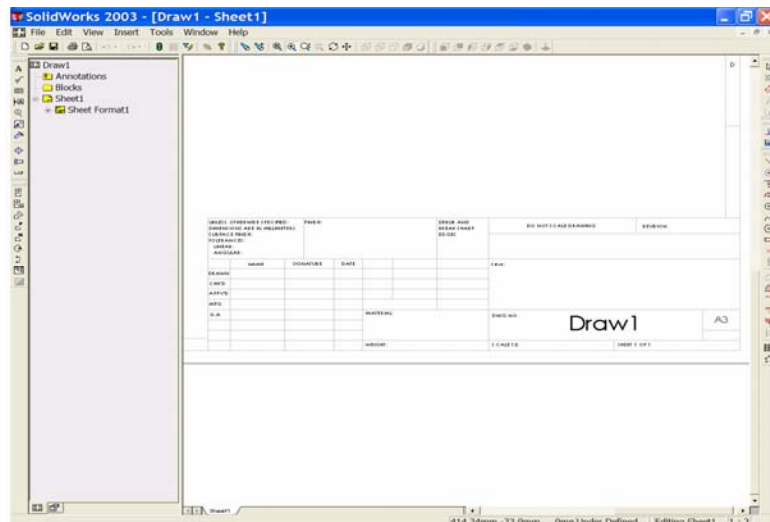

Figure 4
- Use the '**Zoom to Area**'  button from the View Toolbar to examine the border contents. Left click the '**Zoom to Area**' button and draw a window around the '**Title block**' of the border. To do this, place the cursor symbol at the upper left corner of the Title Block, left click and **HOLD THE LEFT BUTTON DOWN**. Drag the cursor symbol to the lower right corner of the Title Block to draw a green window. Release the mouse button and the contents of the window are scaled to fill the screen. See Figure 4. Select the '**Zoom to Area**' button once again to end the command.